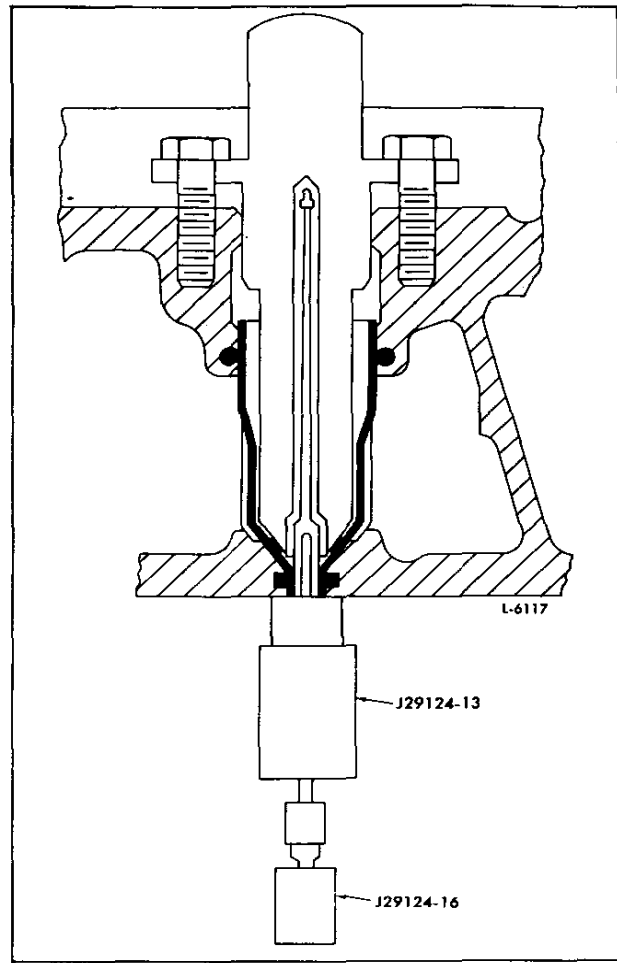

Fig. 3 - Rolling End of Injector Tube
1. Install the roller J 29124-13 in the adaptor J 29124-16. Position the roller assembly into the injector tube small end. Use a 3/8" drive speedhandle and the adaptor J 29124-16 to turn the roller drive as shown in Fig. 3.